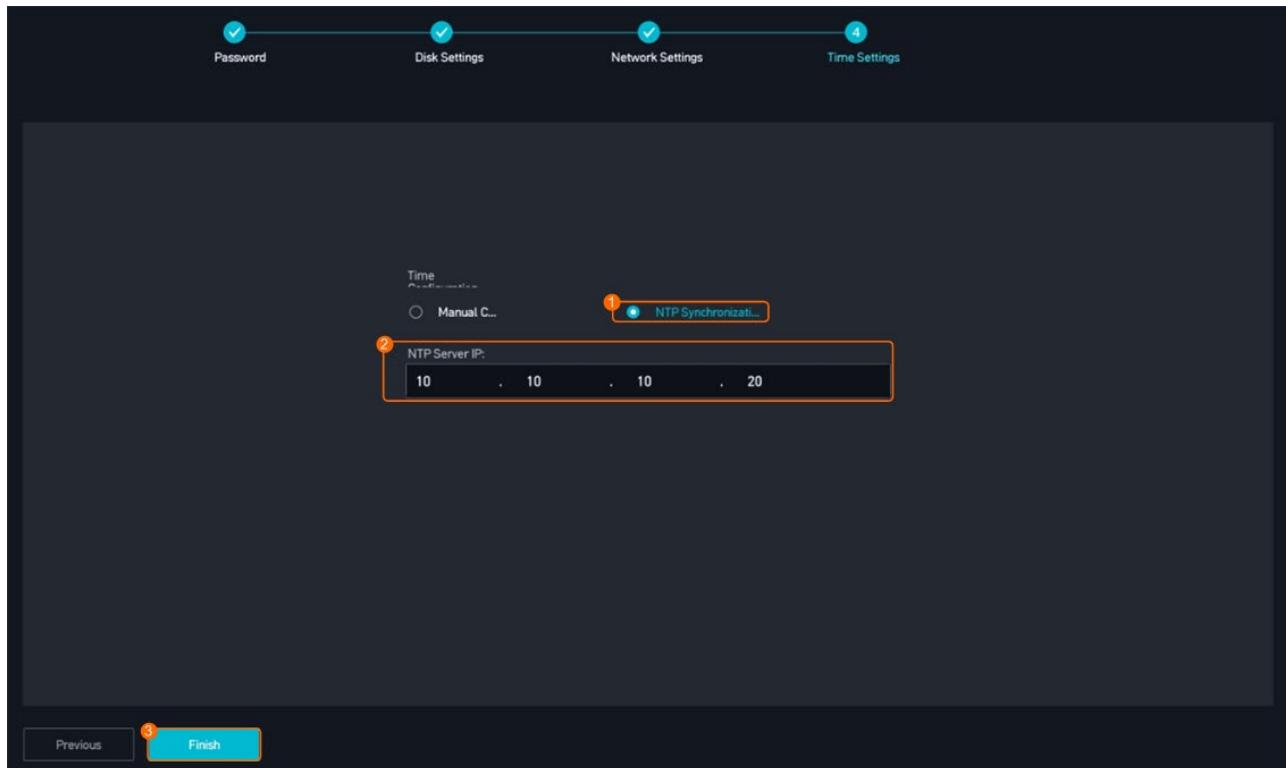

Figure 3-9 NTP time synchronization
- If an NTP server is configured onsite, synchronize the time from the NTP server, as shown in Figure 3-9.